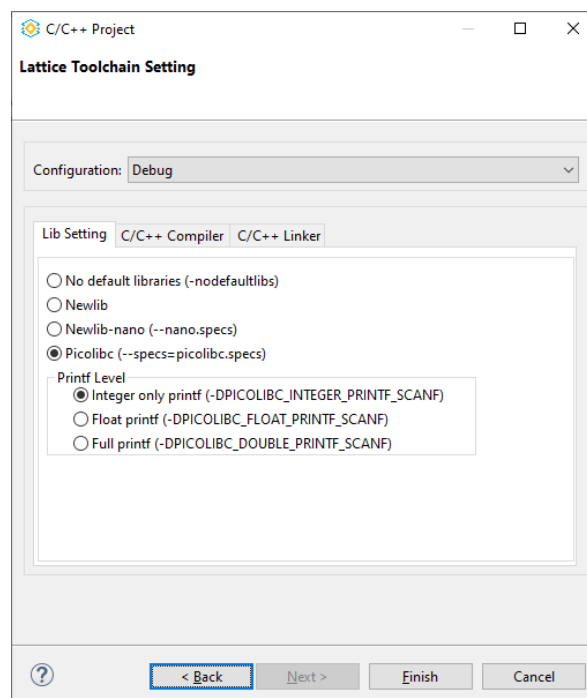

Figure 5.5. Lattice Toolchain Setting Page
8. Click **Next**. The **Lattice Toolchain Setting** page opens (Figure 5.5).